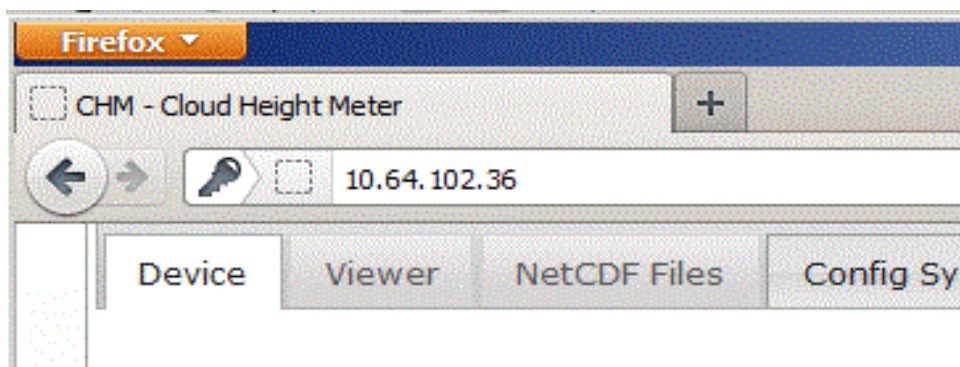

Fig. 11: Firefox browser to access to a CHM 15k Nimbus instrument (here with a fixed address).
The service address (1) can not be modified by the user. It is always available and can be used for direct connections between a laptop and the CHM 15k Nimbus. The address can be entered in a web browser window (Fig. 11) to communicate with the instrument. Fig. 15 shows the “Config Network” tab in the Firefox web browser. Superuser authorization is required to change the user IP address (3).